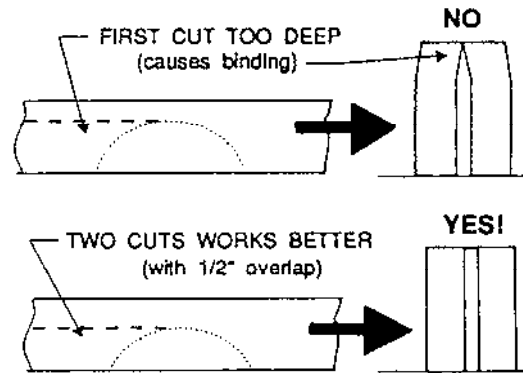

Figure 40
2. In resawing wider boards, adjust the blade height so as to overlap the two cuts by 1/2" (Figure 40). Too deep a first cut can result in binding and kickbacks on the second cut. Always use the same side of the board against the fence for both cuts.